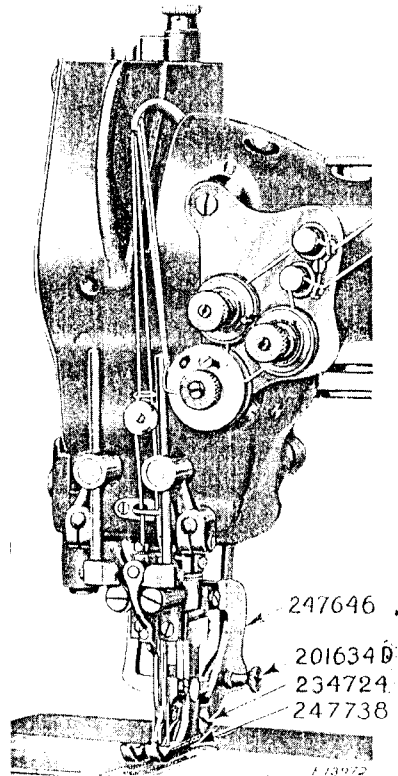
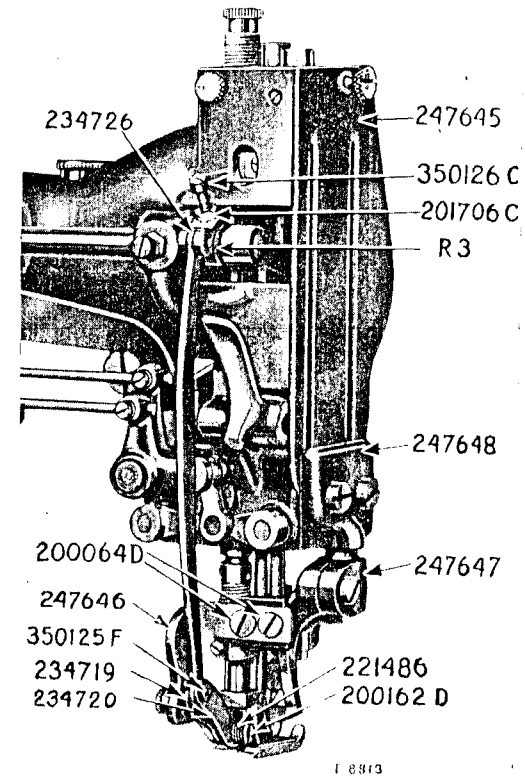

Fig. 22
Fig. 23
1. Remove the regular presser foot from the machine and fasten presser foot 247738 in position on the machine as shown in Fig. 22. Substitute face plate 247645 for the regular face plate and fasten bracket support 247648 to the machine by means of the two screws, as shown in Fig. 23.
3. Place picot edge cutting blade arm bracket 247647, Fig. 23, in position on bracket support 247648, Fig. 23.
5. Place the attachment (with thumb nut 201634b, Fig. 22, at the back end of slot) in position by inserting the knives in between the presser foot shoes, and fasten the attachment on the arm bracket 247647, Fig. 23, with the two screws 200064b, Fig. 23.
6. Loosen the pinch screw in the arm bracket and raise the attachment on the bracket support until the centre of the knife fulcrum stud 234724, Fig. 22, is  $\frac{1}{16}$  inch above the top of the throat plate. Place a scale or straight edge across attachment
arm 247646, Fig. 23, from front to back, and line up parallel with the presser foot, the cutting edges of the knives to be in line with the centre of the piercer, then tighten the pinch screw.
7. Remove the set screw in the rock shaft collar (R3, Fig. 23).
8. Place the operating lever 234726, Fig. 23, in position on the rock shaft collar (R3), using screw 350126c, Fig. 23, and check nut 201706c, Fig. 23, in place of set screw to hold the lever and rock shaft collar in position.
10. Fasten the operating lever with the screw 350126c and nut 201706c, using care to have the point of upper knife blade 234720, Fig. 23, just above the throat plate.
11. Loosen the thumb nut 201634b, Fig. 22, and pull it forward until the point of the lower knife blade 234719, Fig. 23, rests on the throat plate, then tighten the thumb nut. The point of the knife should be just back of the needle hole.
If the knives cut into the first bar, which may occur when using a long stitch, there are two shims 234735 (Fig. 24) which have been provided to insert between 247646 and 247647 (Fig. 23) to position the knives further back so that they will cut the second bar only.
13. When it is desired to do straight hemstitching with the attachment in place, loosen thumb nut 201634b, Fig. 22 and push it to the back end of the slot, then tighten it. This will raise the lower knife so as to permit the fabric to pass under it.
Remove the cap screw 200162D, Fig. 23, together with spring 221486, Fig. 23, and hinge screw 350125E, Fig. 23, push back the knife blade hinge stud 234724, Fig. 22, both knife blades can then be easily removed or replaced.